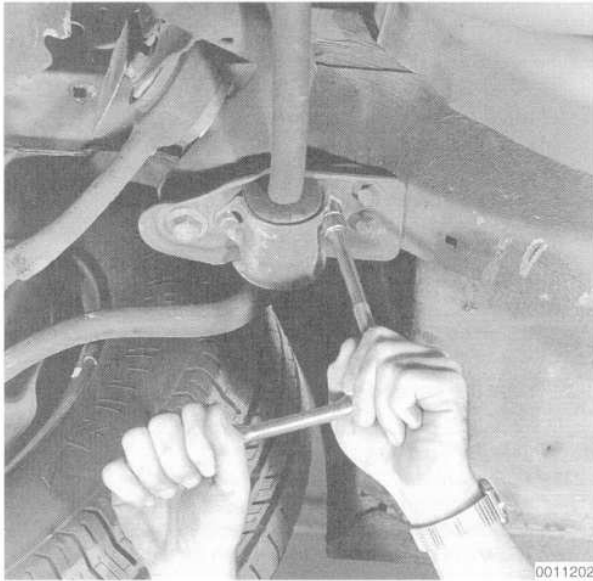

Fig. 13. Stabilizer-to-crossmember mounting bracket being removed.
3. Unbolt the two stabilizer bar bushing brackets and remove the bar. See Fig. 13.